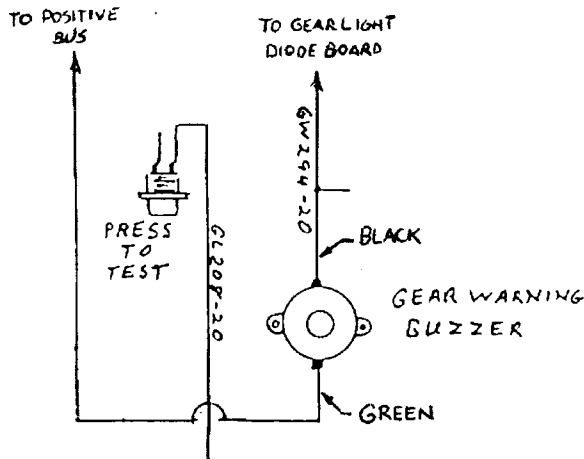
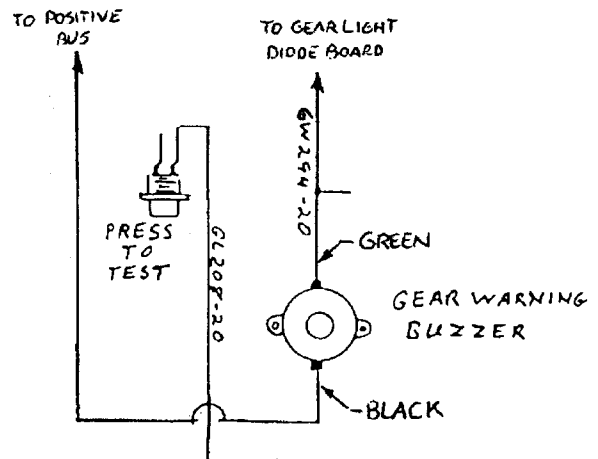

Figure 1: Worst-Case Buzzer Polarity (Case Always Hot)
Figure 2: Best-Case Buzzer Polarity (Case Hot Only When Buzzer Is Activated)
The gear warning buzzer has two colored wires—a green and a black. However, the instructions for wiring the buzzer (whether contained in the Final Assembly section of the *Glasair III Instruction Manual, Version 2* or in the Glasair III Emergency Gear Extension System Instructions (P/N 633-0195-016)) do not specify these colors. If the buzzer is wired as shown in Figure 1 on the following page, then the green wire, which is connected directly to the case of the buzzer, goes to the positive bus, and the case will be continuously energized as long as the master switch is on. If the buzzer is wired as shown in Figure 2, then the black wire goes to the positive bus, and the case will be hot only when the buzzer is activated by the closing of either the push-to-test switch or the gear warning microswitch on the flap control mechanism.
Note: Figures 1 and 2 are excerpted from the large landing gear position indicator circuit schematic presented as FIGURE (G-155) in the manual and FIGURE (14) in the option instructions. Refer to these complete schematics if you are uncertain about the location of the buzzer in the system.
Also, inspect the buzzer to determine whether it is wired according to Figure 1 or Figure 2 above. If it is wired according to Figure 1 so that the green wire goes to the positive bus and the case is continuously hot, rewire it according to Figure 2.